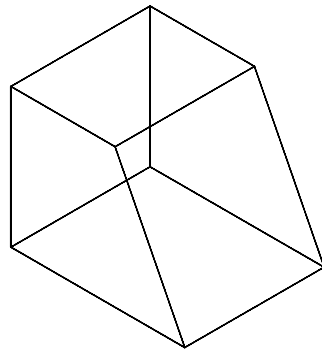

Figure 24-23 Model after joining all the edges
5. Join the remaining edges of the model using the **Line** button. The model, after joining all the edges, should look similar to the one shown in Figure 24-23.